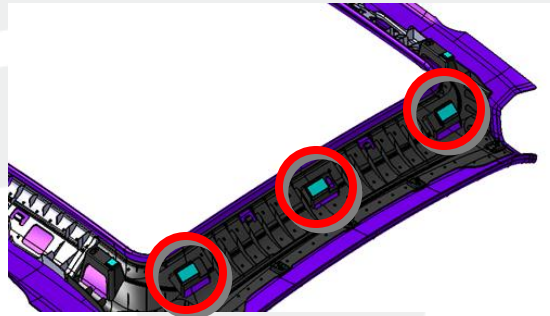

Figure 10
- It might be secured with Dual lock (Figure 10).